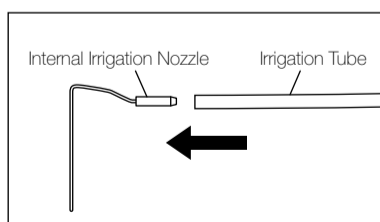

Fig. 5
(1) Internal Irrigation Nozzle
- ① Connect the Irrigation Tube to the Internal Irrigation Nozzle firmly. (Fig. 5)